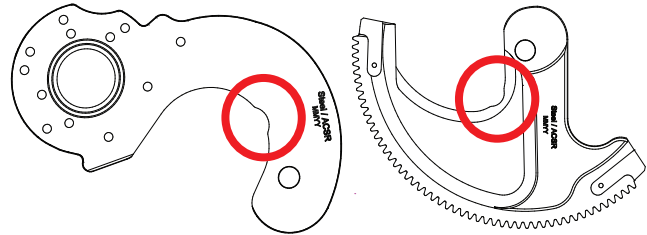

Figure 1
8. Confirm cable can be cut by this tool. The blades have markings that tell the user the type of cable that can be cut. The ACSR stationary and movable blades additionally have a notch in the blade (Fig. 1).